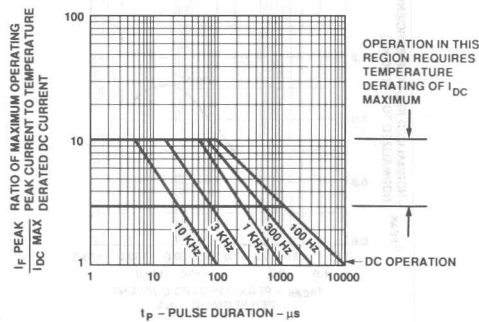

Figure 10. Maximum Tolerable Peak Current vs. Pulse Duration - HER.
4. See Figure 10 to establish pulsed conditions.